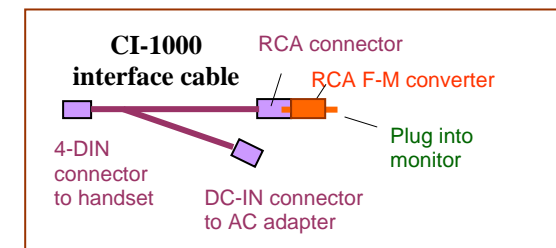

Figure 4
1. Connect the CI-1000 interface cable to the handset as well as the AC adapter, as shown in Fig. 4.